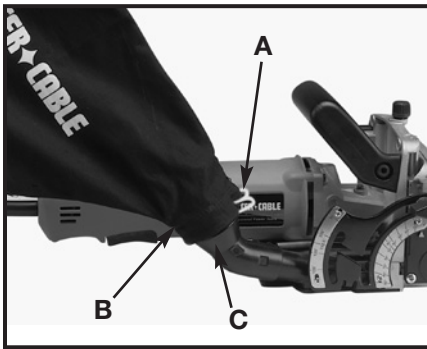

Fig. 18
The tool is equipped with a dust port (A) Fig. 17. A large volume of sawdust and chips will be exhausted from this port during tool operation. A dust bag (B) Fig. 18 and a dust/chip deflector nozzle (C) Fig. 17 are furnished. A standard 1" vacuum hose can be connected to the dust port to facilitate dust collection.
Depress spring clips (A) Fig. 18, and clip dust bag (B) on end of dust/chip deflector (C). The bag is equipped with a zipper to ease emptying of the collected material.